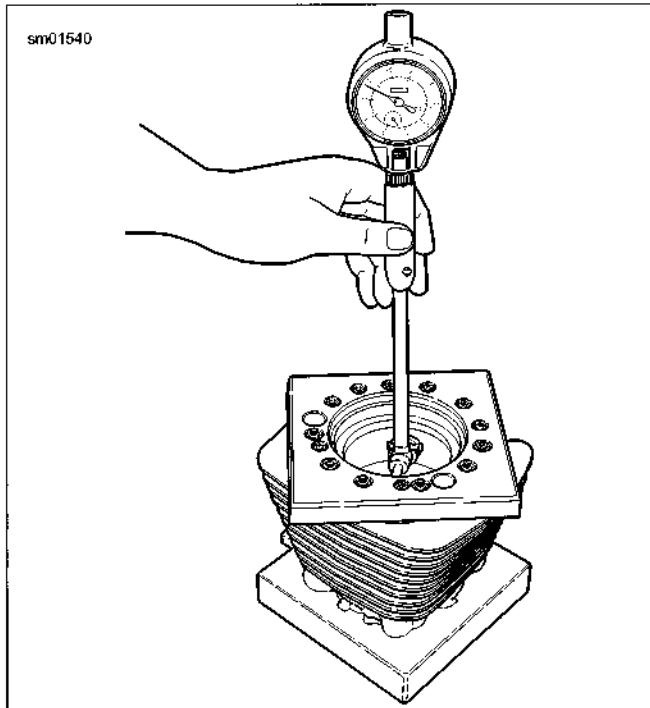

Figure 3-49. Measuring Cylinder Bore
- See Figure 3-49. Remove any burrs from the cylinder gasket surfaces.